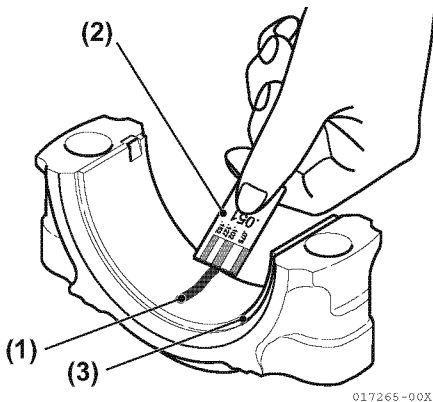

Figure 5-99
3. Remove the connecting rod and measure the plastic gauge with measuring paper (Figure 5-99).